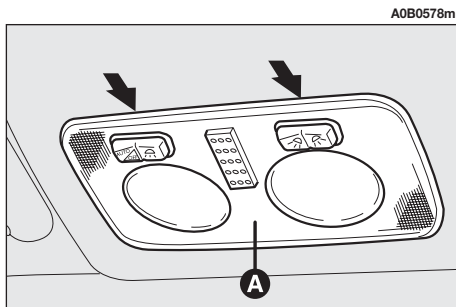

fig. 52
- Remove the roof light (**A-fig. 52**) levering in the points shown by the arrows.